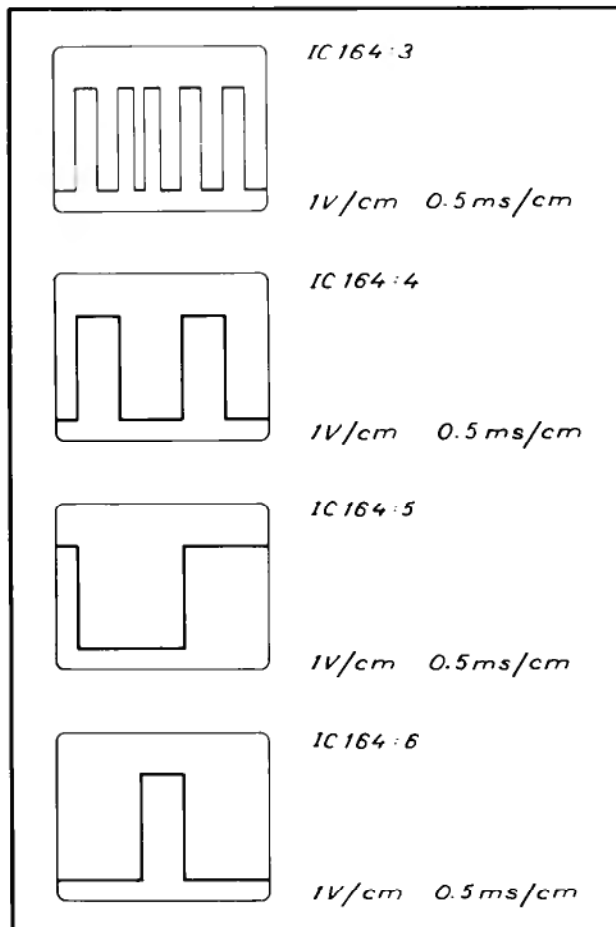
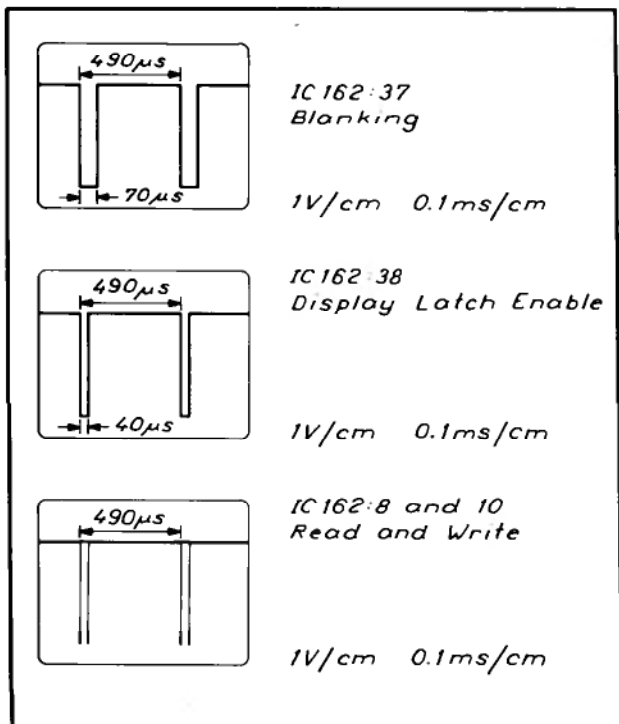

Fig. 5.1 If ALE is correct, check these signals.
Fig. 5.2 Signals to check on IC164.
- If a correct ALE signal is present at pin 11 of the microcomputer, check the signals as illustrated in Fig. 5.1. It is difficult to get a steady display on an oscilloscope, so these figures are only a schematic illustration of the display.
Notes to Fig. 5.1:
If the microcomputer signals are correct as illustrated in Fig 5.1, continue with checking IC164; see Fig. 5.2.